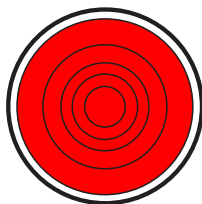

Figure 170. Main Circuit Breaker OFF Lamp
4. On generator #1, verify that the **Main Circuit Breaker OFF lamp** (Figure 170) is illuminated (**RED**). This indicates that the circuit breaker contacts are open.